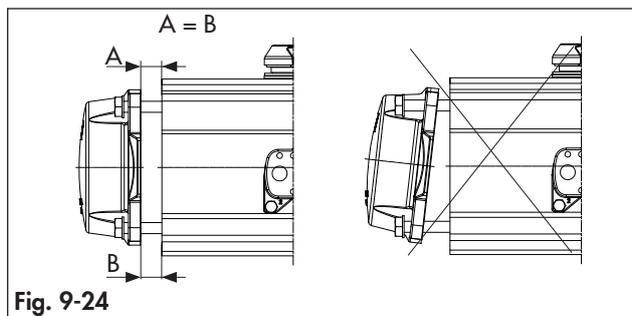

Fig. 9-24
- Assemble the end caps as shown in Fig. 9-24 keeping a constant distance ($A = B$) between the actuator body and the end cap interface.
Refer to Fig. 9-1 and Fig. 9-24.